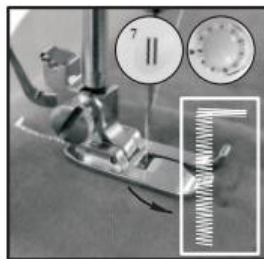

Fig. 18
3. Choose the stitch pattern #7, turn on switch and sew onto the cloth in suitable length, then turn off switch. Note that try to keep sewed stitch in straight line (Fig.18).